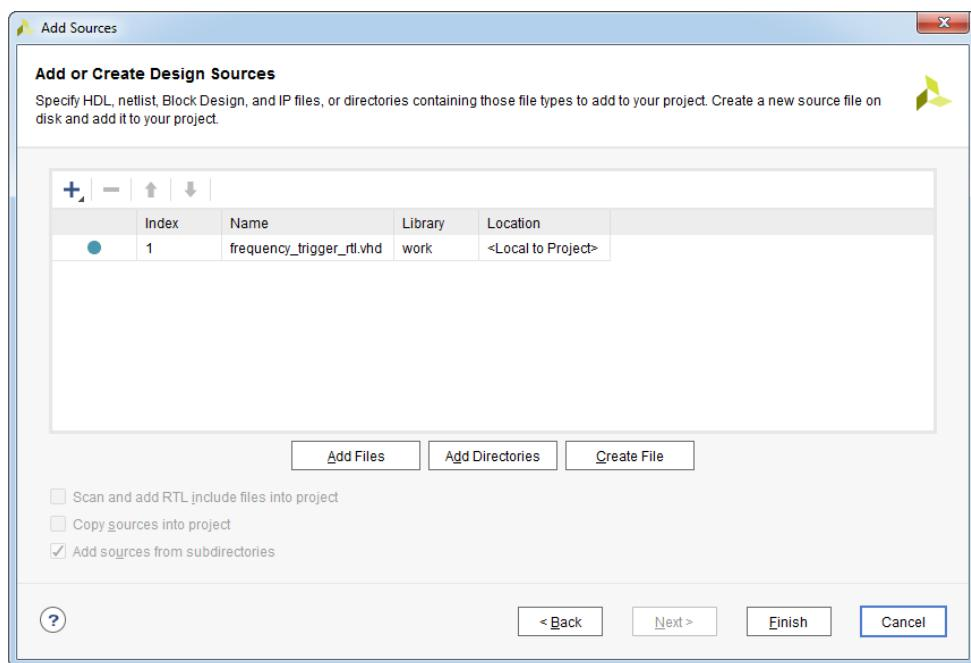

Figure 2.16: Add or Create Design Sources dialog box with created file
7. Now your source file will appear in the **Add or Create Design Sources** dialog box, see Figure 2.16. Click **Finish**.
Please, rename **Entity name** to be **frequency_trigger** and **Architecture name** to be **rtl**, see Figure 2.16.